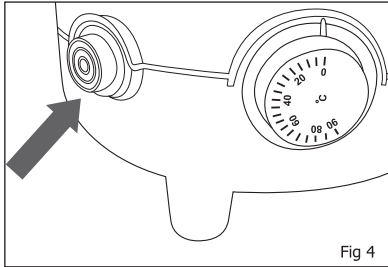

Fig 4
- Turn on the power using the green switch (Fig 4). Switch will illuminate when machine is on.